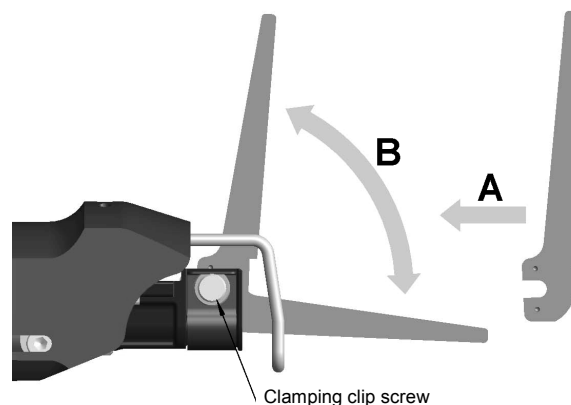

Fig. 4 Tool changing
- Push the tool holder forwards as far as it will go and release the clamping clip screw (Fig. 4) using the 3mm Allen key.
- Push the saw blade in a vertical position (A) into the tool holder until it rests fully against the clamping clip screw.
- Turn the saw blade downwards as far as it will go (B).